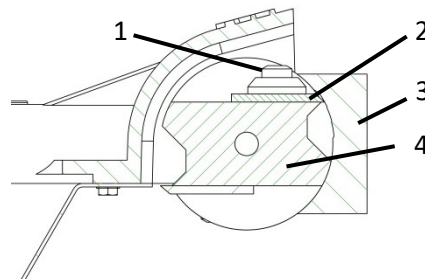

Fig. 11 Knife adjustment
- > Loosen the knife screw (1 - Fig.11).
- > Push the knife (2 – Fig.11) all the way back.
- > Place the knife gauge (3 – Fig.11) on the cylinder (4 – Fig.11) so that it rests on the two bearing surfaces of the cylinder at the top and bottom.